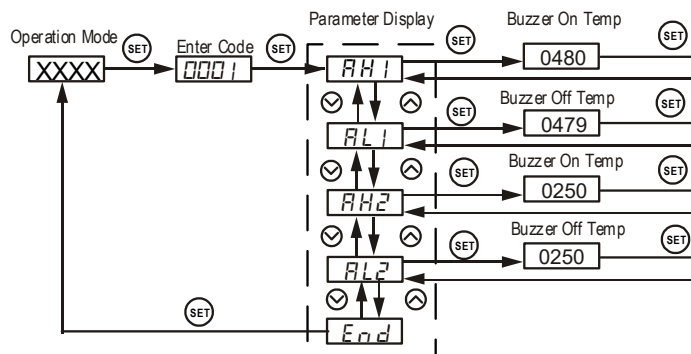

Figure 4. Steps of setting alarms. In this example, alarm1 is set as a high limit alarm at 480; alarm2 is disabled.
Steps to set an alarm are described below as well as in the flow chart in Figure 4:(1) Press SET key, change the code to 0001, and press SET again to enter alarm setting mode. (2) Press Up and Down key to select a parameter (AH1, AL1, AH2, or AL2). (3) Press SET to view the value
of the parameter.(4) Use Shift, Up, and Down key to change the value.(5) Press SET key to confirm the value and exit from this parameter.(6) Press Up or Down key to select the new parameter.(7) To exit this mode, press SET key when "End" is displayed. The procedure is showed in the flow chart in Figure 4.